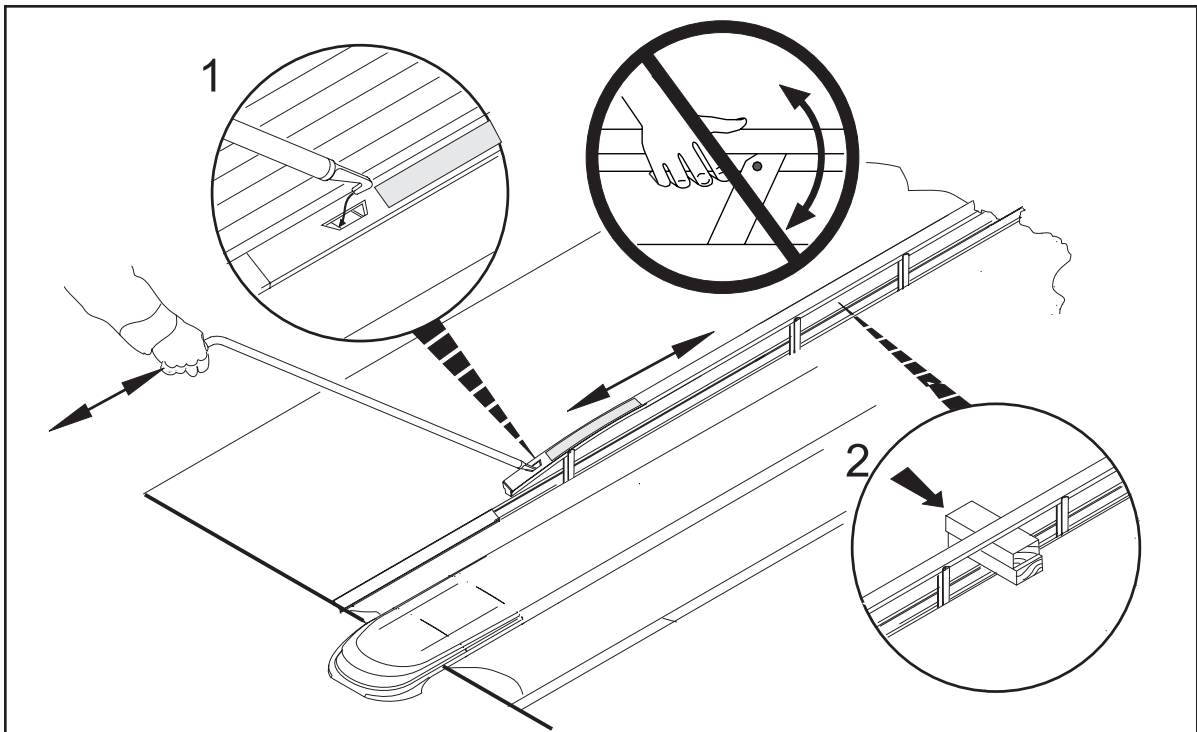

Figure 2. Raising/Lowering the Bumpers
4. Never use your hands or feet to manually raise or lower the bumper rails. Use an appropriate tool such as the Brunswick bumper deployment tool (Brunswick part number 84-8601000-000) when manually lifting (or lowering) the bumpers. Refer to *Figure 2*.
The Pinball Wizard automatic bumpers are not intended for manual operation. **Never** raise or lower the bumpers by pushing or pulling the rails as injury to or loss of fingers or toes can occur. To raise or lower the bumper manually disconnect power to the Automated Bumper Controller and then use an appropriate tool such as the Brunswick bumper deployment tool (84-860100-000). Refer to *Figure 2*.
3. Your hands, fingers, or feet must never come into direct contact with the bumper rails to raise or lower them. Refer to *Figure 2*.
4. Use an appropriate tool such as the Brunswick bumper deployment tool (Brunswick part number 84-8601000-000) when manually lifting or lowering the bumpers. Refer to *Figure 2*.